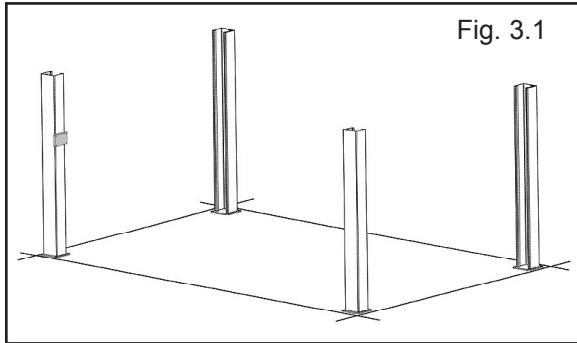

Fig. 3.1
1. Place a chalk line on the floor according to the floor plan layout. Pay attention to the power unit location. Locate and stand the Columns at their respective locations. **DO NOT BOLT** Columns down at this time. Use caution to prevent the Columns from falling over. (See Fig. 3.1)